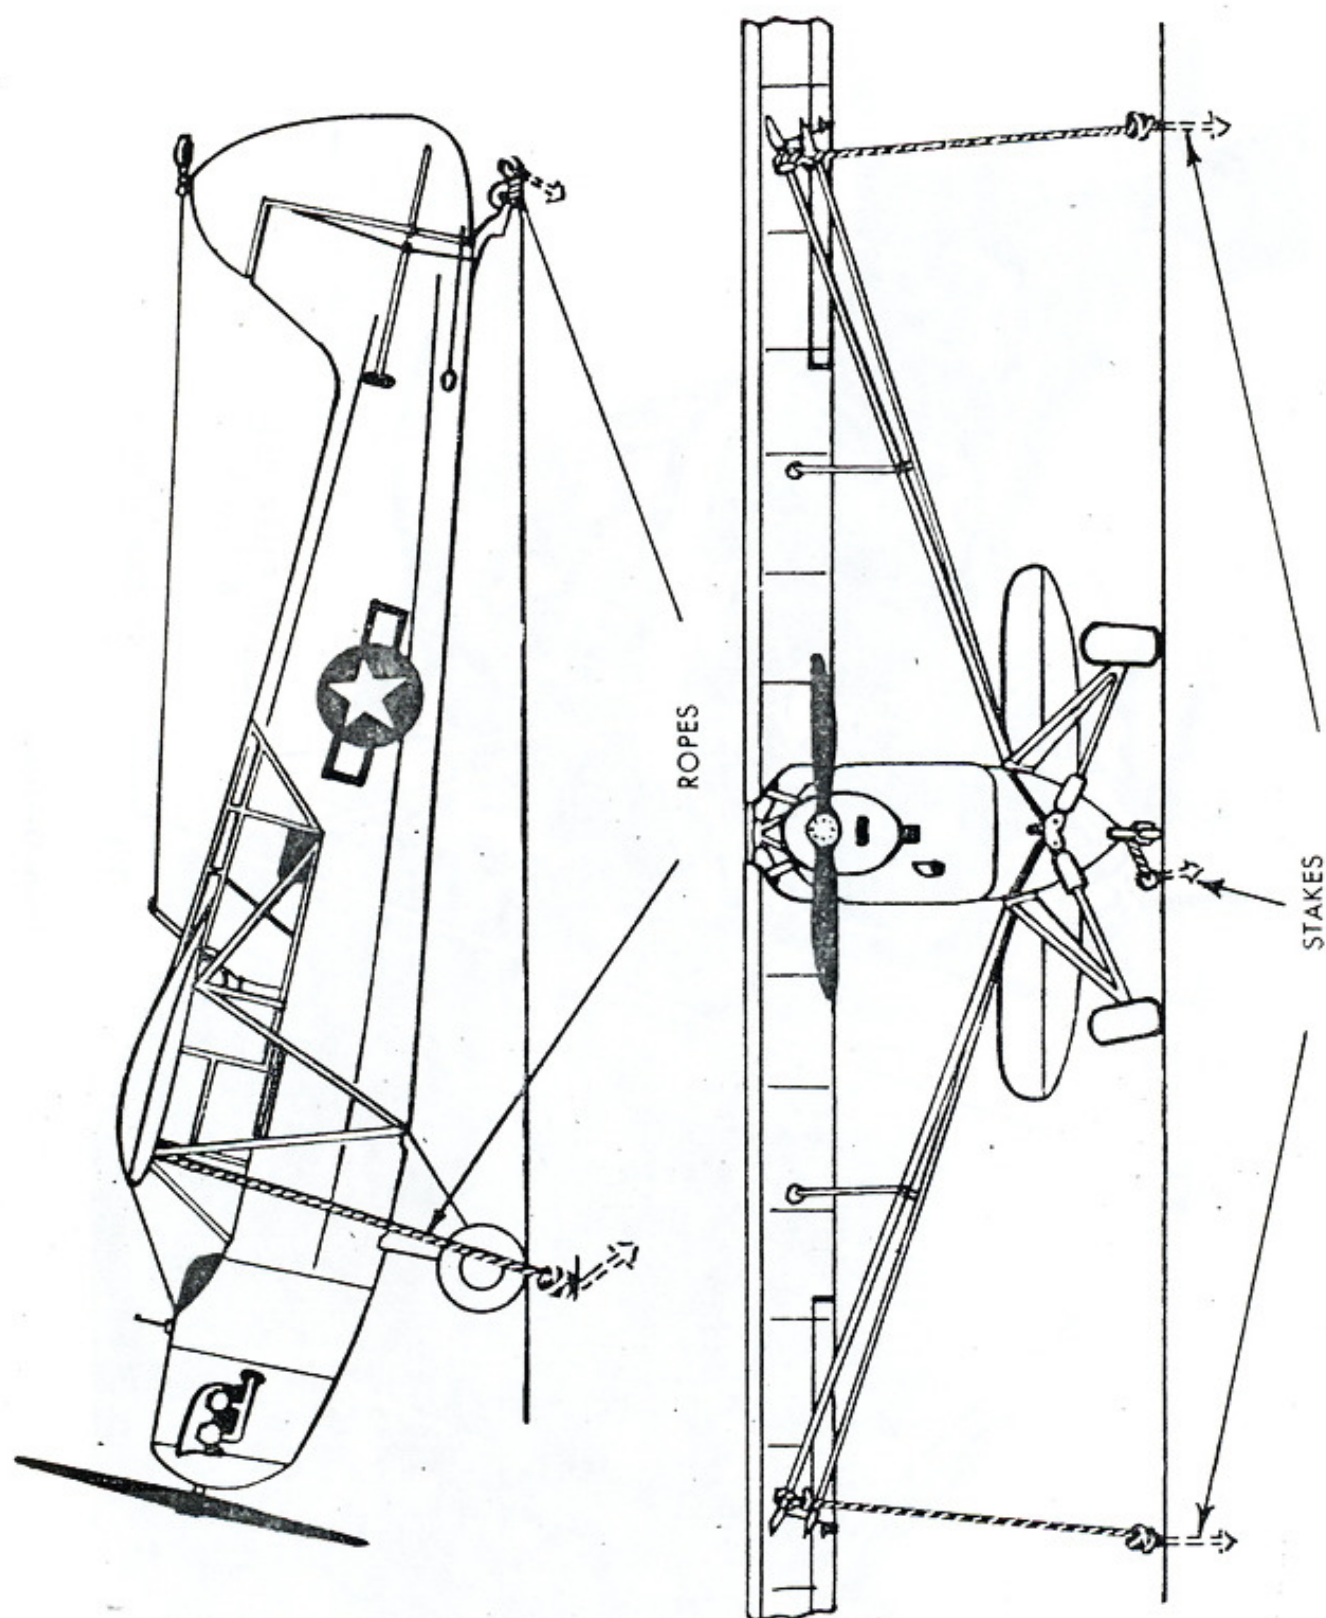

Figure 14—Tie-down of Plane
(1) Place airplane with tail into wind.
(2) Drive ground-breaking pin (short, arrow-pointed pin) into ground below tail-wheel spring at a rearward angle. (See figure 14.) Remove pin.
(3) Place mooring arrow on end of long driving rod and drive it in the hole made with the ground-breaking pin for a distance of about 18 inches.
(4) Remove driving rod.
(5) Insert blunt end of threaded anchor rod into anchor arrow and turn it until it is tight.
(6) Attach eye fitting to squared end above ground.
(7) Tie rope to eye and tail wheel. (See figure 14.)
(8) Break ground with ground-breaking pin (paragraph {2}, preceding) below each front lift strut spar fitting. Drive pin at a forward angle.
(9) Follow procedure in paragraphs (3) to (6), inclusive.
(10) Tie rope to end eye and to each front lift strut above pulley fitting.